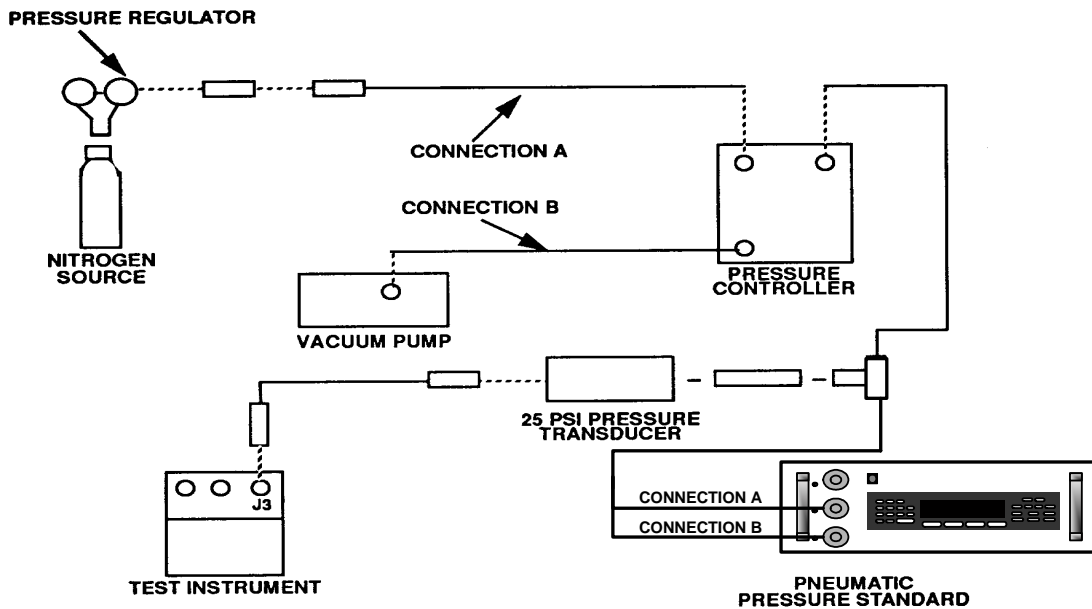

Figure 3. Pressure and vacuum - equipment setup (25 psi).
- (2) Set **TEST SELECT** switches to **50**.
- (3) Operate hydraulic pressure standard to apply 1000 psi and return to **0** three times.
- (4) With pressure at **0**, press and hold **TEST** pushbutton until **CAL** appears on TI display. Release **TEST** pushbutton.
- (5) Wait for offset value to appear on display. Offset value will be between **-150** and **+150**.
- (6) Press and release **TEST** pushbutton.
- (7) Operate hydraulic pressure standard to apply 300 psi. TI will indicate between 277.5 and 322.5.
- (8) Operate hydraulic pressure standard to apply 1000 psi. TI will indicate between 960 and 1040.
- (9) Connect equipment as shown in CONNECTION A (fig. 3).
- (10) Set **TEST SELECTOR** switches to **49**.
- (1) Connect equipment as shown in CONNECTION B (fig. 3).
- (2) Set **TEST SELECT** switches to **45**.
- (3) Operate vacuum pump and adjust pressure controller and pneumatic pressure standard controls for 18 inHg indication and back to **0** three times.
- (4) Stop the vacuum pump and, with pneumatic pressure standard indicating **0**, press and hold **TEST** pushbutton until **CAL** appears on display. Release **TEST** pushbutton.
- (5) Wait for offset value to appear on display. Offset value will be between **-4.5** and **+4.5**.
- (7) Operate vacuum pump and adjust necessary controls for 18.00 inHg indication on pneumatic pressure standard. TI will display between 17.10 and 18.90.